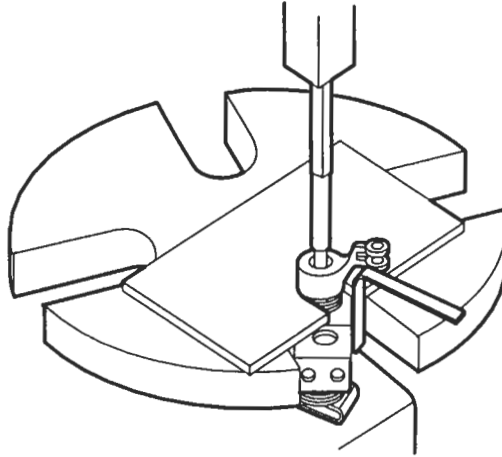

Figure 5. Press Old Lever Off Control Tube
5. Remove the pin from the control lever and press the old lever off the control tube (Figure 5.)